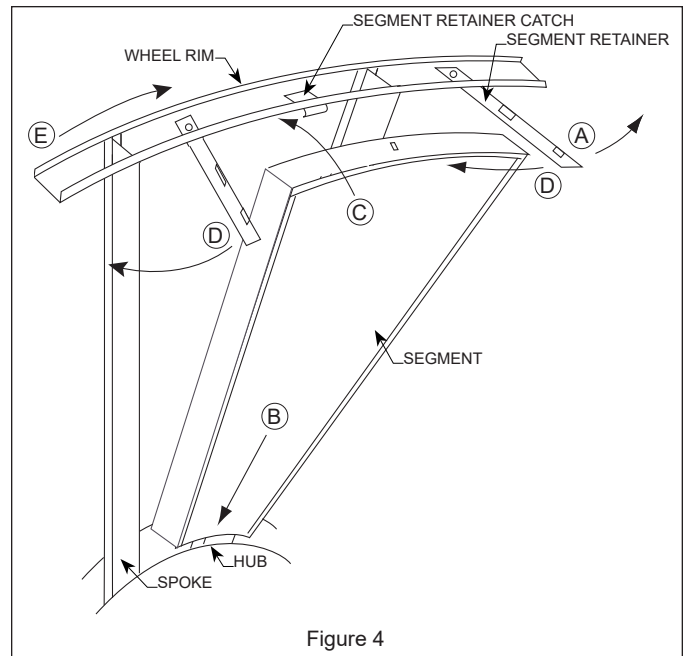

Figure 4
4. To install wheel segments follow steps A through E. See Figure 4. Reverse procedure for segment removal.